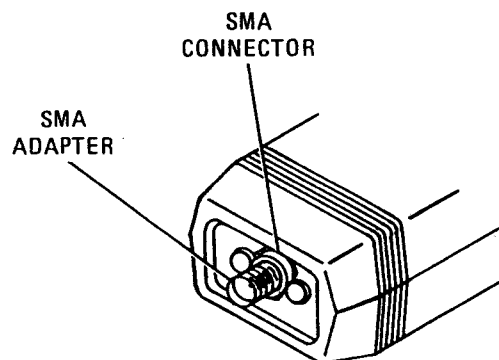

Figure 10. SMA Adapter Location
4-4. The HP 11940A contains no internal user-accessible adjustments or parts. The SMA Adapter (see Figure 10) is the only external replaceable part.
5-2. The SMA Adapter located at the end of the probe is the only replaceable part on the HP 11940A (see Figure 10). It protects the SMA Connector from mechanical damage and should be left on. Should the end of the adapter become worn or damaged through use, it can be replaced using the procedure outlined in Paragraph 5-3. The SMA Connector is not replaceable and should therefore be handled with care.
1. Use a 7/32" wrench to remove the old SMA Adapter (see Figure 10). Turn the adapter counterclockwise as viewed looking at the rear of the probe.